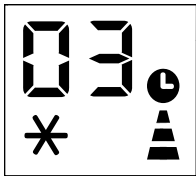

Fig. 3
- Press the button, the screen will display 1-24 hours, and the symbol and symbol and symbol are flash together. (fig 3)